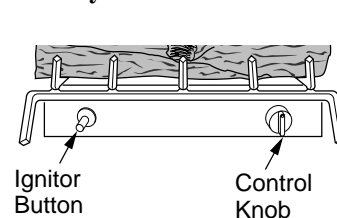

Figure 24 - Control Knob and Ignitor Button Location
4. Wait five (5) minutes to clear out any gas. Then smell for gas, including near the floor. If you smell gas, **STOP!** Follow "B" in the safety information, column 1. If you don't smell gas, go to the next step.
5. Turn control knob counterclockwise  to the PILOT position. Press in control knob for five (5) seconds (see Figure 24).